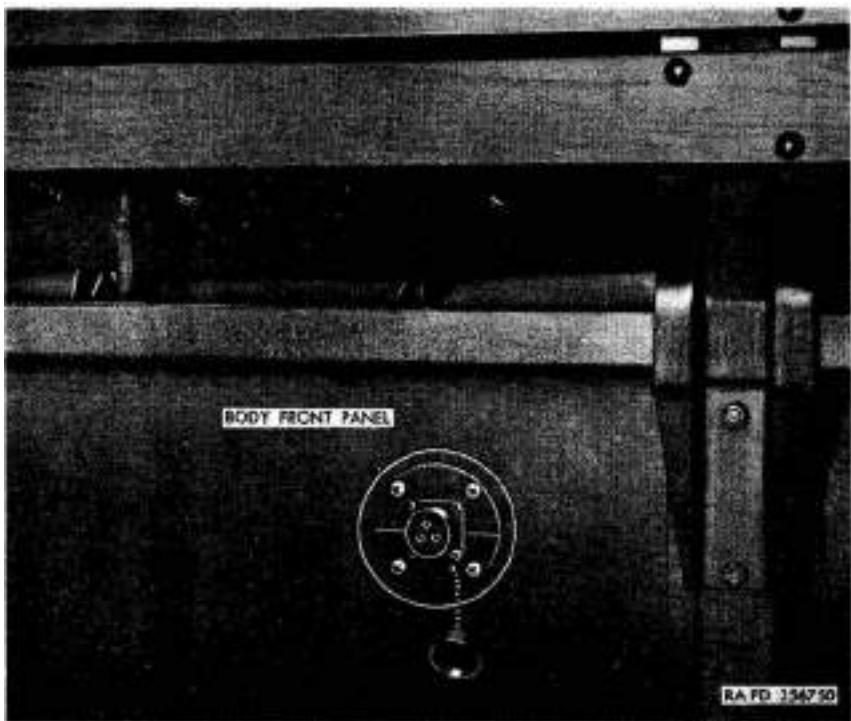

Figure 17. Radio receptacle disconnect points.
- (1) Remove radio cable receptacle and cover from body front panel (four large screws, four small screws, and lock washers) (fig. 17).
- (2) Remove right and left rear lifting shackle bracket assemblies from frame (two lock washers and nuts, each side).
- (3) Remove nuts, lock washers, and plain washers from body hold-down bolts (three each side).
- (4) Disconnect fuel tank filler pipe and vent line hose connections under body.
- (5) Remove body from frame.